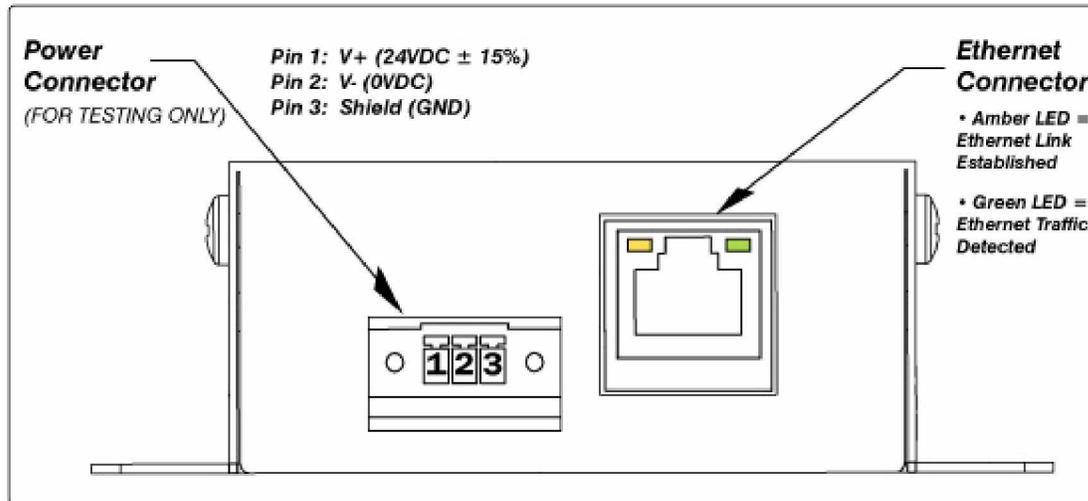

Figure 2-3: Power and Ethernet Connectors
**NOTE:** The external power connector on the Gateway (*Figure 2-3*) is for testing purposes only.